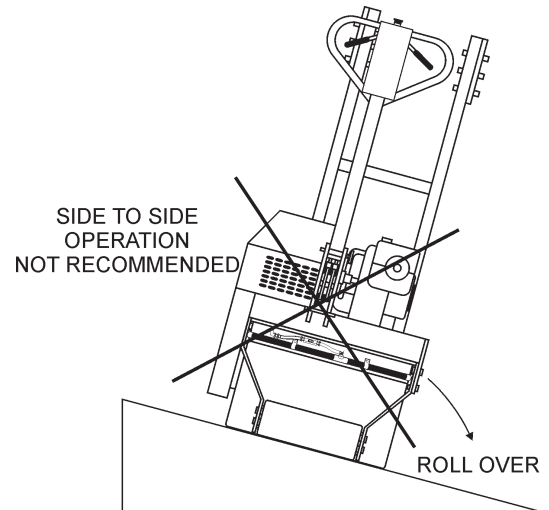

Figure 9. Tipping (Rollover)
**NEVER!** operate the roller on side slopes (Figure 9). The possibility exist that the roller could tip over (roll over), thus causing bodily harm even death and serious damage to the equipment.